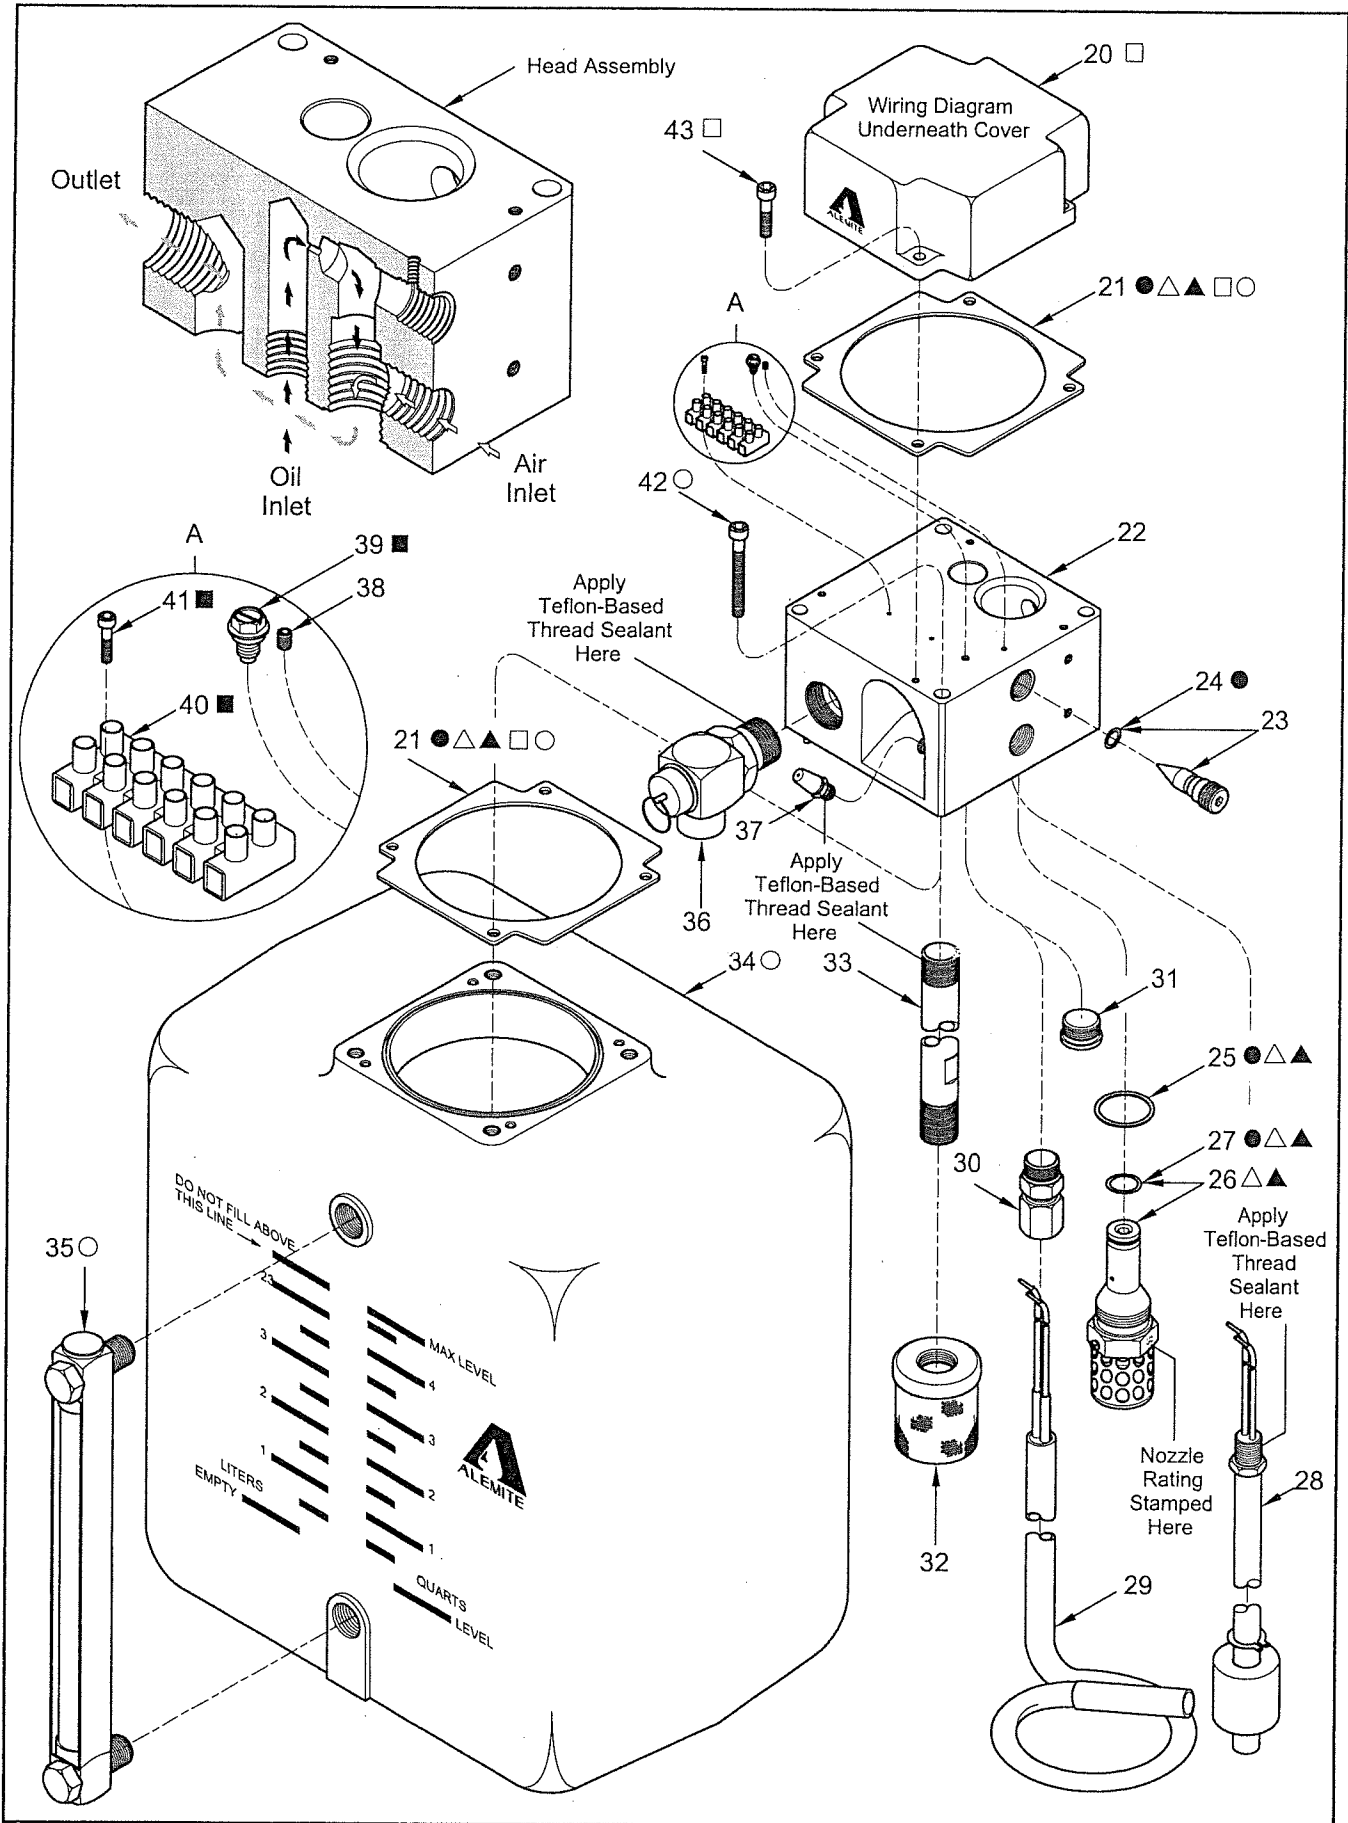

Figure 3 Lubricator Models 3942-B, 3942-C, 3943-B and 3943-C - Exploded View (w/ Section View of Head Assembly)
A wiring diagram mounts on the underneath side of Cover (20) for systems that include the low-level switch and/or the oil heater. See Figure 3.
NOTE: Lubricate O-Rings 24 and 27 with clean oil prior to installation. See Figure 3.